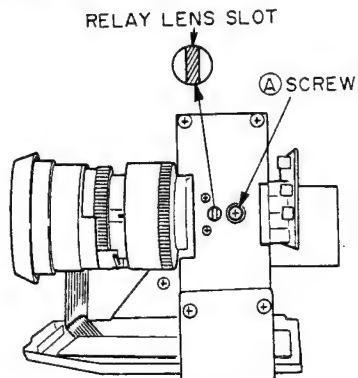

Fig.4-13
7. Insert a flat head (→) screwdriver into the slot on the relay lens as shown in Fig.4-13.